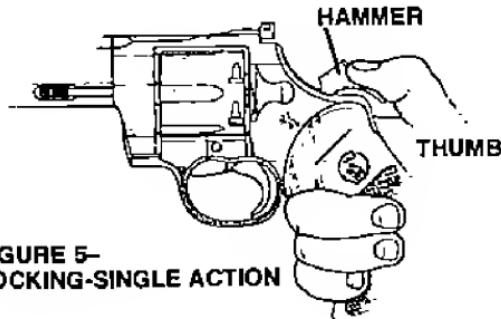

FIGURE 5—
- (S) 1. *To fire single action*, grasp revolver by its grip, keep fingers away from trigger and draw hammer fully back (about an inch) to cocked position where it will be held to the rear (See Figure 5). Remove thumb from hammer spur.